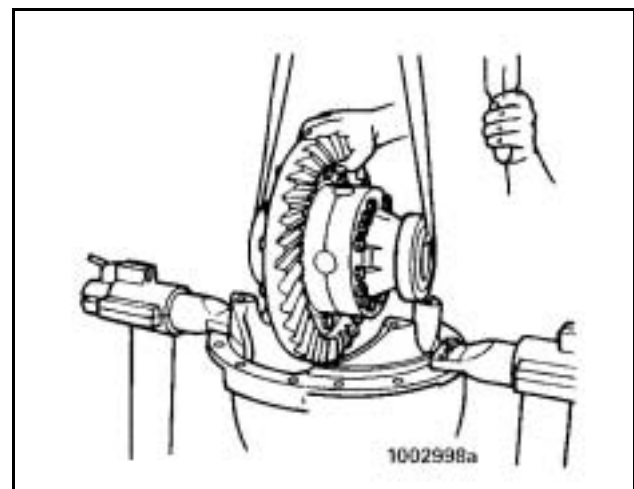

Figure 17
8. Safely lift the main differential and ring gear assembly from the carrier. Place the assembly on a work bench. **Figure 17.**